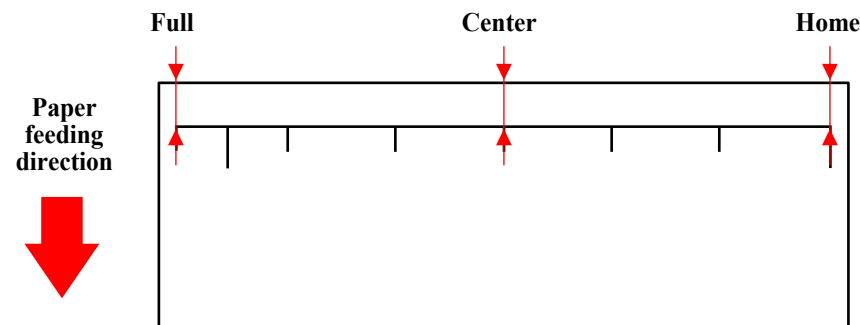

Figure 5-57. Adjustment Pattern
4. Measure the distances of Home, Center and Full as shown in Figure 5-57.